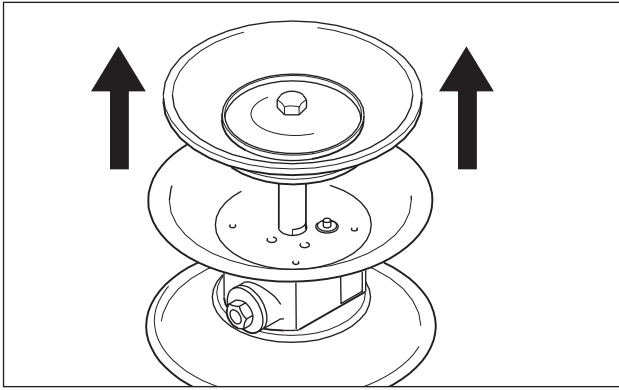

Fig. 11: Pulling out the piston rod.
- Pull the piston rod with the second diaphragm out of the central block and disassemble the second diaphragm as described before (Fig. 11).